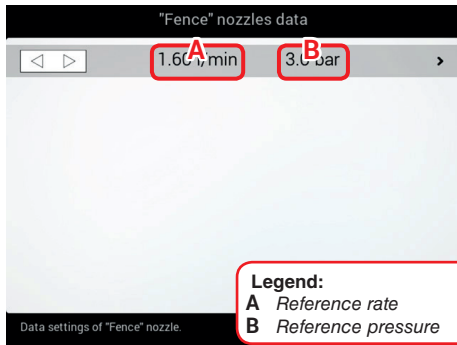

Fig. 70
- Select the nozzle you wish to set up (Fig. 70).